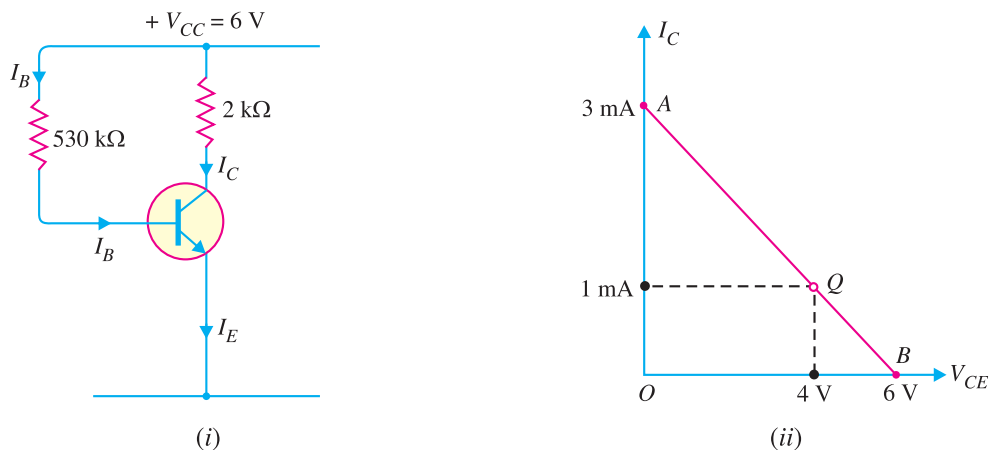

Fig. 9.8
D.C. load line. Referring to Fig. 9.8 (i), $V_{CE} = V_{CC} - I_C R_C$
When $I_C = 0$, $V_{CE} = V_{CC} = 6 \text{ V}$. This locates the first point B ($OB = 6\text{V}$) of the load line on collector-emitter voltage axis as shown in Fig. 9.8 (ii).
When $V_{CE} = 0$, $I_C = V_{CC}/R_C = 6\text{V}/2 \text{ k}\Omega = 3 \text{ mA}$. This locates the second point A ($OA = 3\text{mA}$) of the load line on the collector current axis. By joining points A and B , d.c. load line AB is constructed [See Fig. 9.8 (ii)].
Operating point Q. As it is a silicon transistor, therefore, $V_{BE} = 0.7\text{V}$. Referring to Fig. 9.8 (i), it is clear that :